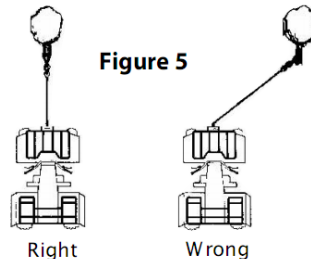

Figure 5
12. AVOID CONTINUOUS PULLS FROM EXTREME ANGLES as this will cause the wire rope to pile up on one end of the drum (Figure 5). This can jam the wire rope in the winch, causing damage to the rope or the winch.